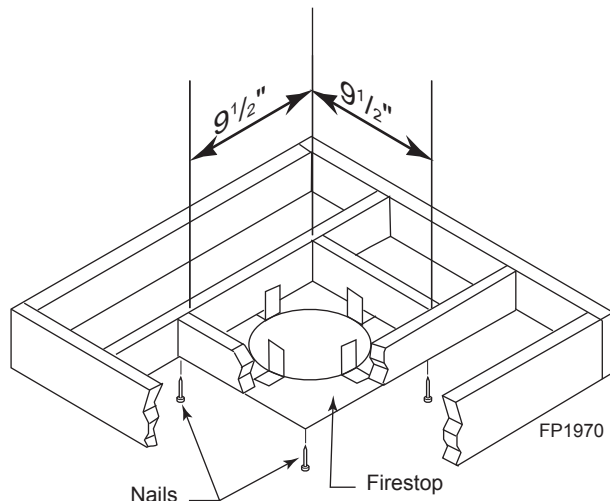

Figure 31 -
1. Cut a 9½" (241 mm) square hole in the ceiling using the locating hole as a center point. The opening should be framed to 9½" x 9½" (241 x 241 mm) inside dimensions as shown in *Figure 31* using framing lumber the same size as the ceiling joist. If the area above the ceiling is an insulated ceiling or a room, nail firestop from the top